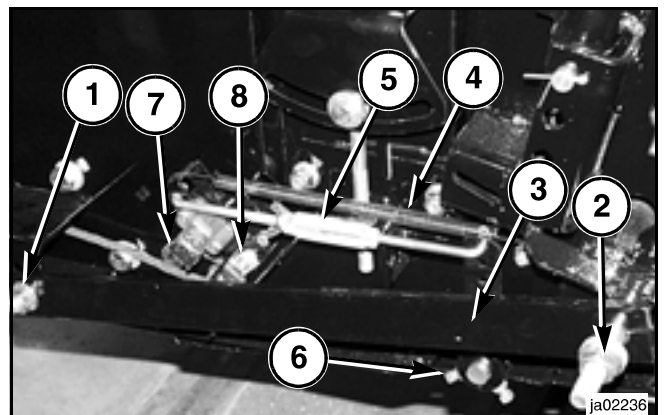

FIG. 268
FIG. 268: Header Height Control (Flex Header Only): Remove 5/8-11 X 1-1/2 inch capscrew with hex flange self locking nut (1) and 5/8-11 X 8.0 inch divider pivot capscrew with hex flange self locking nut and three flat washers (2) securing divider brace (3) to pan end. Remove brace from pan end.